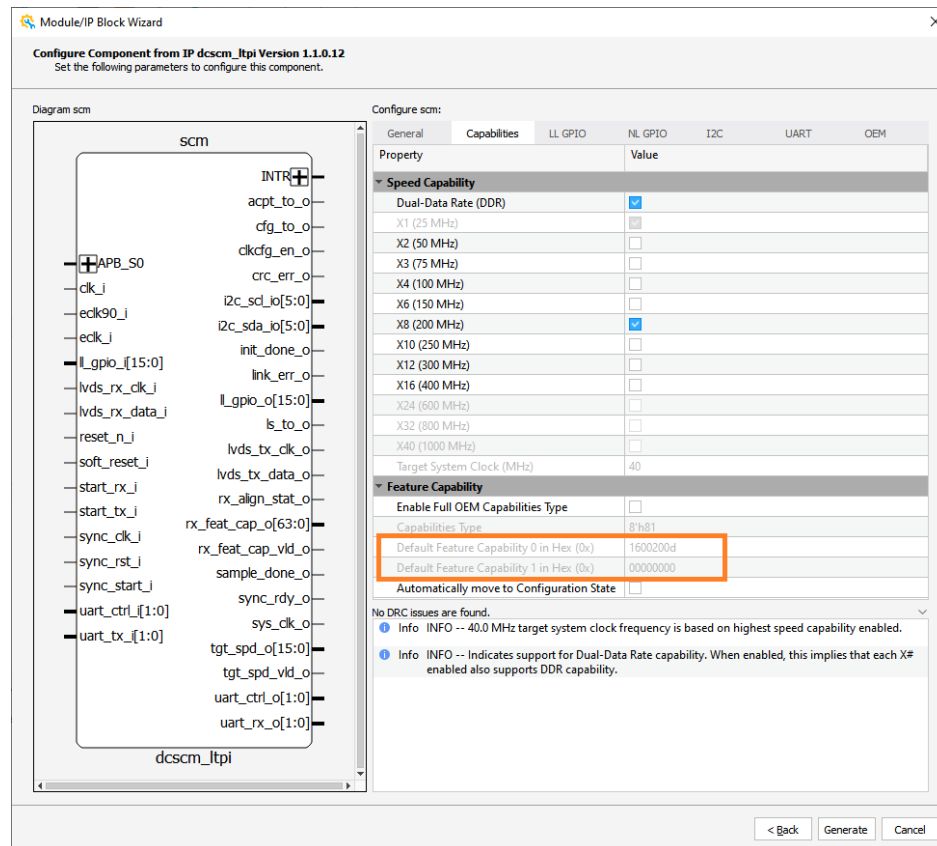

Figure 10.1. Feature Capabilities
- This occurs when the feature capability of HPM and SCM does not match, meaning that one or more of the enabled or disabled interfaces do not match. This can be checked using the **Capabilities** tab of the IP (as shown in Figure 10.1).